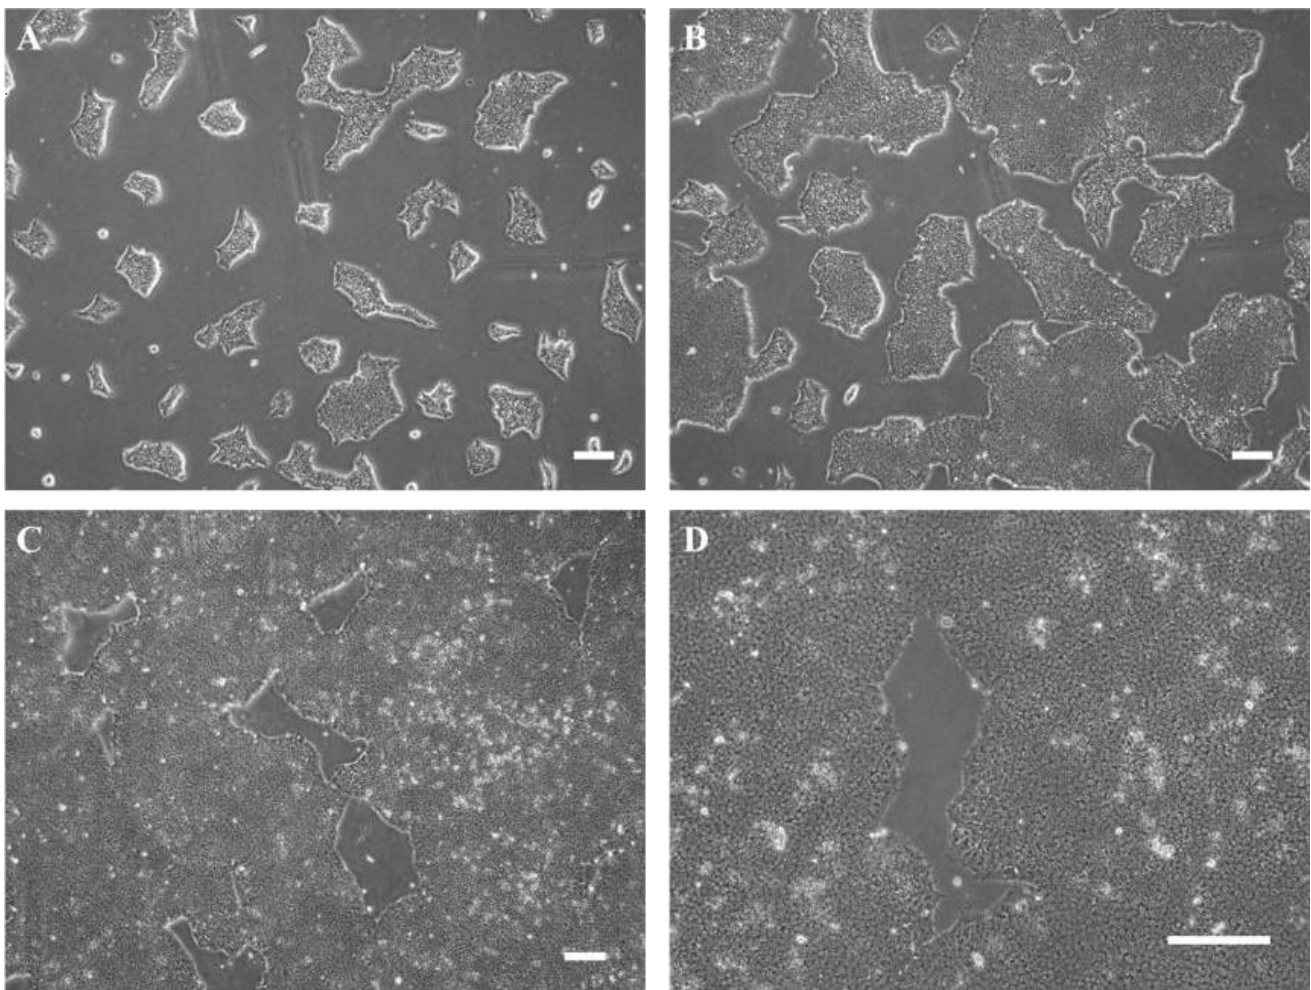

Figure 1: Morphology of hiPSCs cultured in NcTarget human pluripotent stem cell medium on a Matrigel Plate.
- 1.1 When cell confluence reaches approximately 85% (Figure 1-C, D), normally 4 days after seeding. Even if the clones are small and confluence is insufficient, continuous culture should not exceed 5 days.
The passaging ratio can range from 1:5 to 1:20 depending on cell growth status and experimental requirements. If cells are healthy, with 85% confluence and uniform clone size (Figure 1-C, D), a 1:10 ratio is recommended. Reduce the ratio if cell density is low; increase the ratio if density is high.
12. After 18-24 hours, replace with fresh NcTarget Complete Medium. Change the medium daily thereafter, followed with passaging or cryopreservation 4-5 days later (Figure 1).
1. When the cell confluence reaches about 85% (Figures 1), cells can be harvest for cryopreservation. Typically, 2×10^6 - 4×10^6 viable cells per well of a 6-well plate can be collected and frozen in one cryovial.